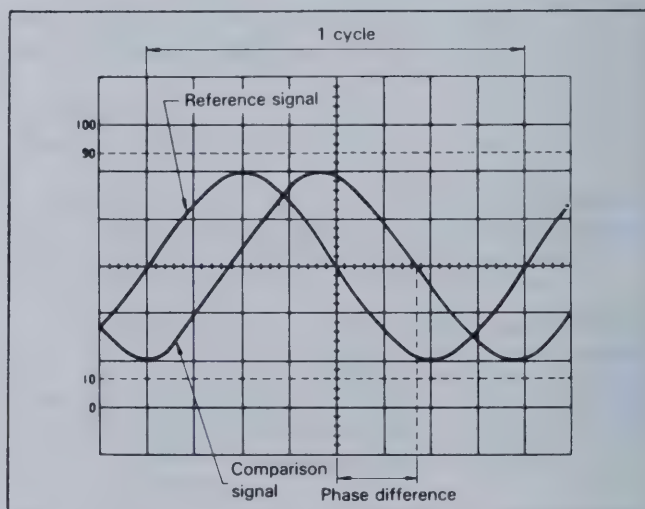

Fig. 18. Phase Difference Measurement.
(Refer to Fig. 18)
1. Apply the two signals to the **CH 1 (X)** and **CH 2 (Y)** input jacks, selecting the dual-trace display mode.
3. Use the \blacktriangleleft **POS** controls to position the waveforms in the vertical center of the screen. Use the **TIME/DIV** and **SWEEP/VAR** controls to adjust the display so one cycle of the reference signal occupies 8 divisions horizontally (see Fig. 18). The trigger **LEVEL** and \blacktriangleright **POS** controls are also useful in achieving this display. The display should be as shown in Fig. 18, where one division now represents 45° in phase.
For the example shown in Fig. 18, the horizontal distance is 1.7 divisions. Thus, the phase difference is calculated as follows: